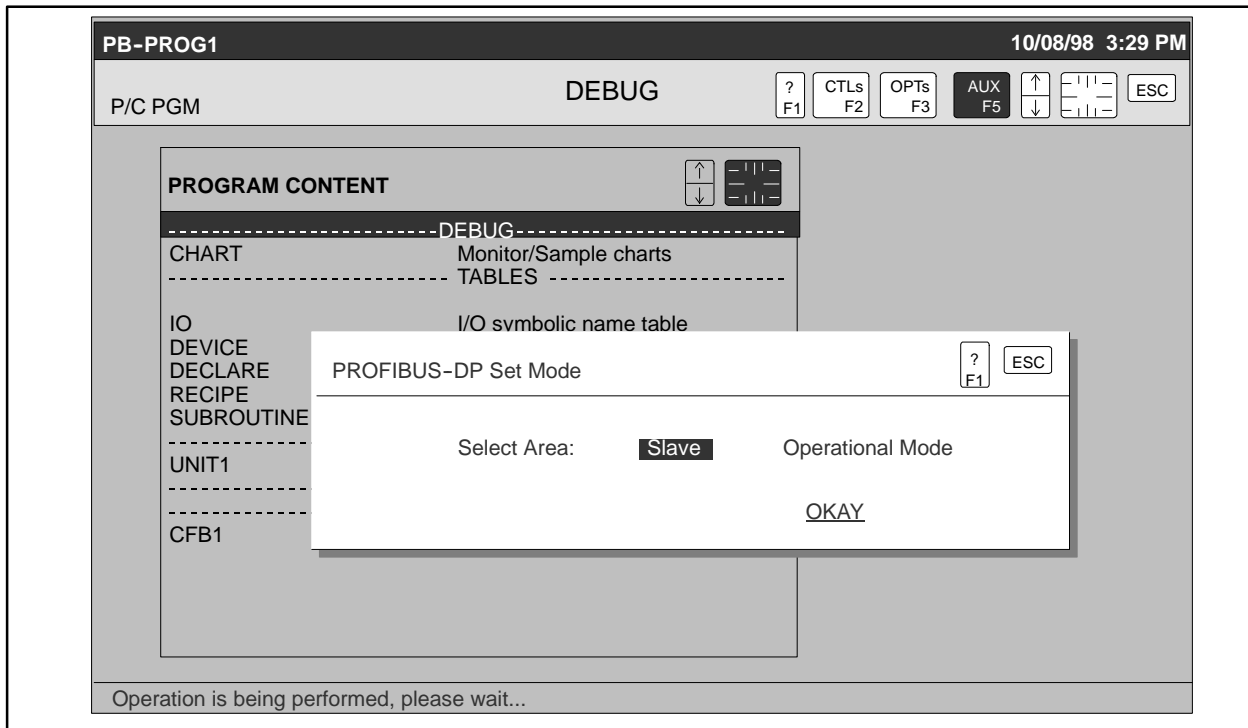

Figure 9-18 Selecting Slave
3. Press **Enter**. The PROFIBUS-DP Set Mode dialog box appears (Figure 9-18). **Slave** is highlighted.